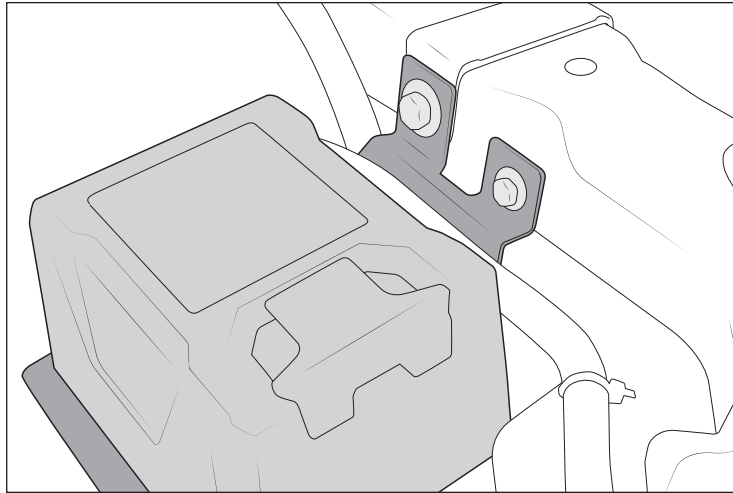

Figure 6
2. Position the controller bracket in place and loosely install the radiator support bolts removed earlier (fig. 6).